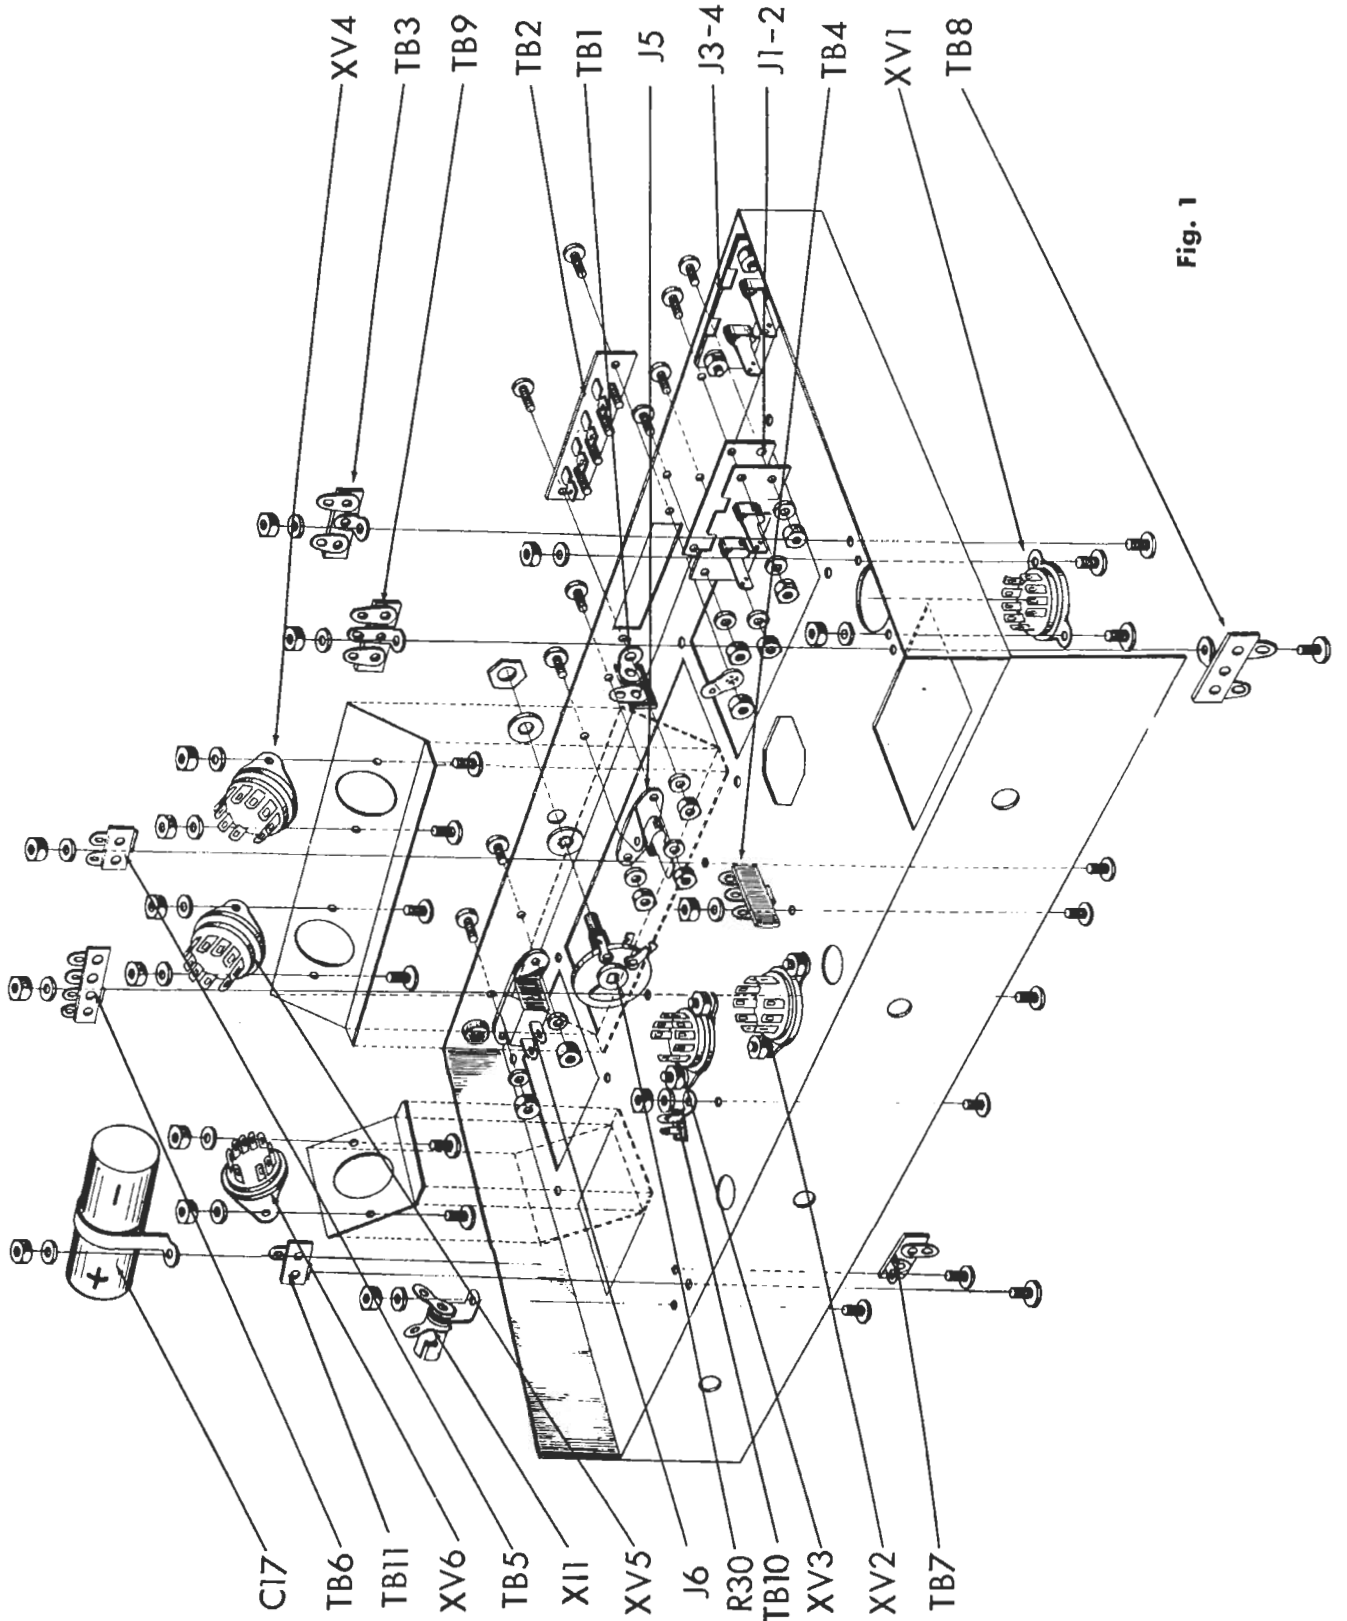

Fig. 1
NOTE: The chassis in Fig. 1 appears in exploded view. The angles on which the tube sockets are mounted are actually part of the chassis, but has been moved up, out of the chassis, to make component mountings more obvious. Refer to Fig. 3 for proper orientation of all components.
1. (✓) Fig. 1. Mount the 9 pin miniature tube socket with shield base XV1 as shown. Use two #4-40 screws, two #4 lockwashers and two #4-40 hex nuts.
2. (✓) Fig. 1. Mount the 9 pin miniature tube socket XV6 as shown. Use two #4-40 screws, two #4 lockwashers and two #4-40 hex nuts.
3. (✓) Fig. 1. Similar to the above, mount the 9 pin miniature tube sockets XV2, XV3, XV4 and XV5 as shown. Use two #4-40 screws, two #4 lockwashers and two #4-40 hex nuts for each socket.
4. (✓) Fig. 1. Mount the 4 screw terminal board, TB2 from the outside of the chassis as shown. Use two #6-32 screws and two #6-32 hex nuts. Under one #6-32 hex nut, mount a #6 ground lug. Under the other #6-32 hex nut, add a 1 post upright terminal strip, TB1, and a #6 lockwasher.
5. (✓) Fig. 1. Mount a 2 post terminal strip, TB3, as shown. Use one #6-32 screw, one #6 lockwasher and one #6-32 hex nut.
6. (✓) Fig. 1. Using the same mounting hole, mount a two post with ground terminal strip, TB9, from the bottom and a two post terminal strip, TB8, from the top. Use one #6-32 screw, one #6-32 lockwasher and one #6-32 hex nut.
7. (✓) Fig. 1. Mount a 2 post with ground terminal strip, TB4, as shown. Use one #6-32 screw, one #6-32 lockwasher and one #6-32 hex nut.
8. (✓) Fig. 1. Mount a 1 post right with ground terminal strip, TB5, as shown. Use one #6-32 screw, one #6 lockwasher and one #6-32 hex nut.
9. () Fig. 1. Mount a 3 post, 2 left with ground terminal strip, TB6, as shown. Use one #6-32 screw, one #6 lockwasher and one #6-32 hex nut.
10. () Fig. 1. Using the same hole, mount a 1 post left terminal strip, TB7, from the top and 30 mfd electrolytic capacitor, C17, as shown. Observe the polarity on the capacitor. Use one #6-32 screw, one #6 lockwasher and one #6-32 hex nut.
11. () Fig. 1. Mount the pilot light socket, X11, as shown. Use one #6-32 screw, one #6 lockwasher and one #6-32 hex nut.
12. () Fig. 1. Mount a 1 post left with a ground terminal strip, TB10, as shown. Use one #6-32 screw, one #6 lockwasher and one #6-32 hex nut.
13. () Fig. 1. Mount input jack board, J1-2 as shown. Use a bakelite insulator between the board and the chassis. Use four #6-32 screws, four #6-32 lockwashers and four #6-32 hex nuts.
14. () Fig. 1. Mount the input jack board, J3-4 as above. Use bakelite insulator as above. Use four #6-32 screws, four #6 lockwashers and four #6-32 hex nuts.
15. () Fig. 1. Mount tape output jack, J5, as shown. Use two #6-32 screws, two #6 lockwashers and two #6-32 hex nuts.
16. () Fig. 1. Mount the hum adjustment pot, R30 as shown. Use one 3/8 flatwasher, one 3/8 lockwasher and one 3/8 hex nut. Bend upper and lower lugs so that they neither protrude over bottom of chassis or touch the chassis proper.
17. () Fig. 1. Mount the convenience outlet, J6 as shown. Use two #6-32 screws, two #6 lockwashers and two #6-32 hex nuts.
18. () Fig. 1. Push the grommet through the remaining 3/8 hole in the rear of the chassis.
19. () Fig. 1. Mount #6 ground lug "1". Use a #6-32 screw and a #6-32 hex nut. See Fig. 5.
20. () Fig. 1. Mount a 1 post left terminal strip, TB11, as shown. Use one #6-32 screw, one #6-32 lockwasher and one #6-32 hex nut.